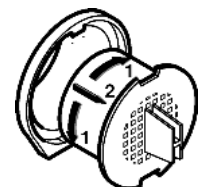

Fig. 24
- ▶ Turn the activated charcoal filter through 90° to the right or left *Fig. 24 (1)*.
- ▶ Remove *Fig. 24 (2)* the activated charcoal filter.
- ▶ Turn the new activated charcoal filter through 90° to the right or left *Fig. 24 (1)* until it snaps into place.